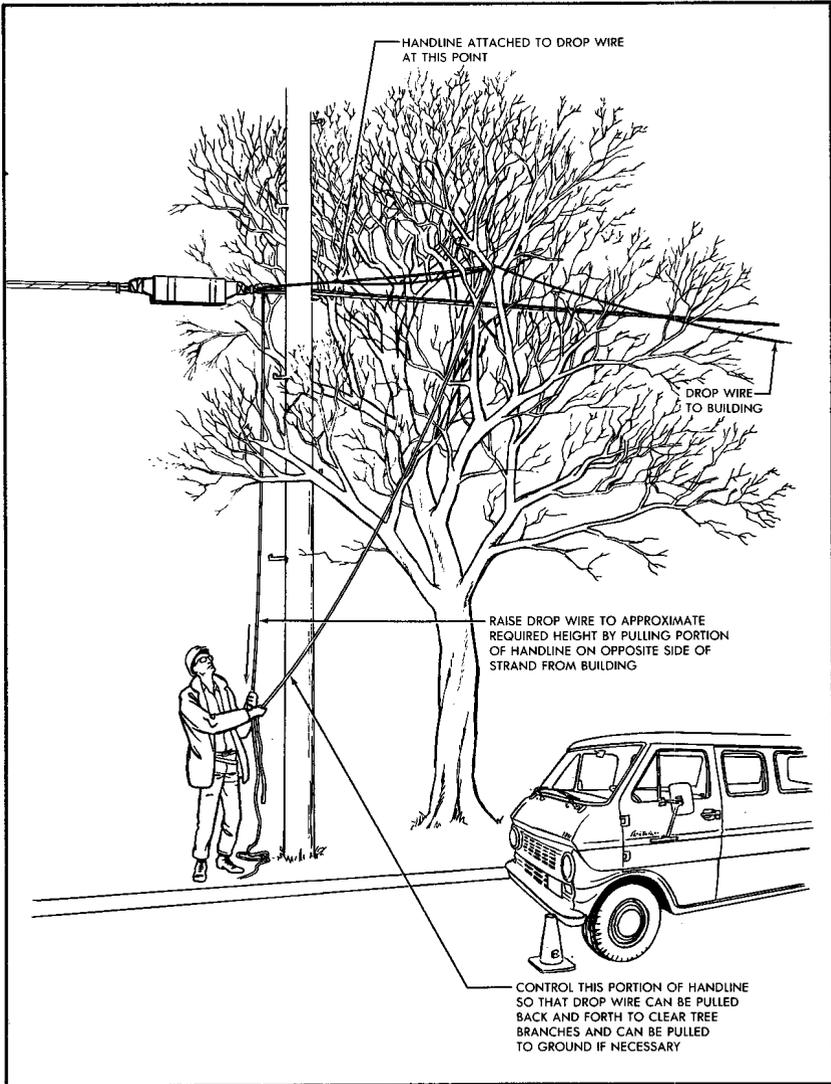

FIGURE 8. Raising Drop Wire
c. When no vehicles or pedestrians are approaching, raise the drop wire by pulling that portion of the handline on the opposite side of the strand from the building. The portion of the handline toward the building should pass through employee's hand (Figure 8) so the employee can pull the handline in either direction to work the drop wire among the branches of the tree, or to pull the wire to the ground quickly, if necessary.